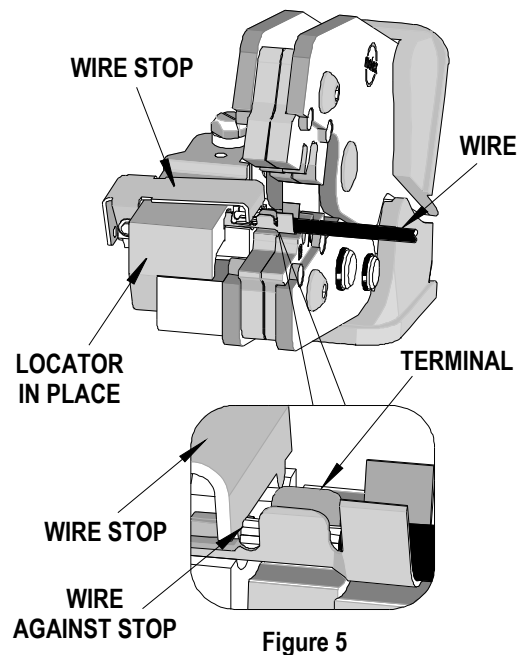

Figure 5
5. Insert the proper wire over the terminal. Some large O.D. wires may need to be placed into the terminal before closing the tool. Gently touch the wire stop with the end of the wire. See Figure 5.